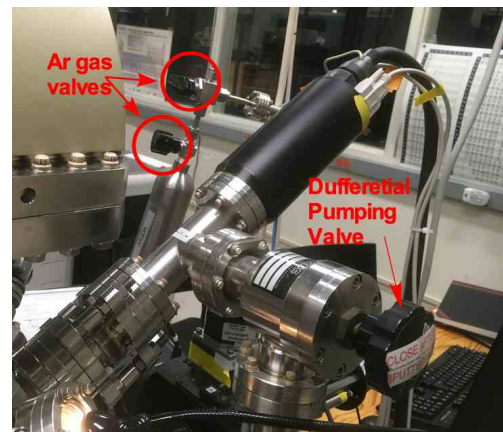

Figure 1. Sputter Gun
5. Slowly open the differential pumping line, Figure 1, watching that the pressure doesn't go above the 10^{-8} Torr range and quickly returns to approximately the previous base pressure.
6. Open the Ar tank valve, Figure 1, there are 2 valves.